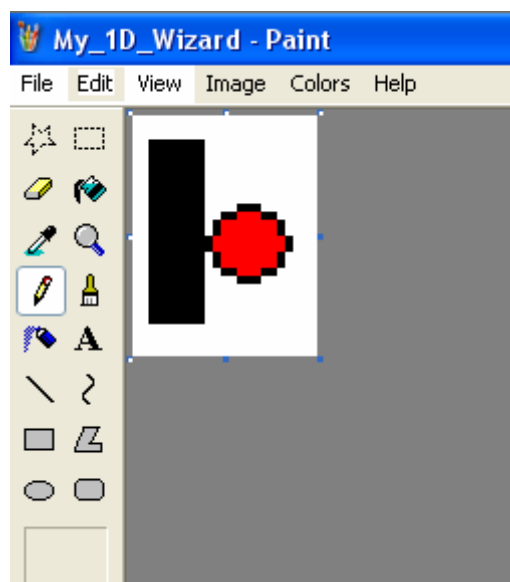

Figure 6: Wizard Icon Picture
3.3 Use the paint drawing toolbar to reproduce the image in figure 6. Use the Large Size option for Zoom in the View toolbar.